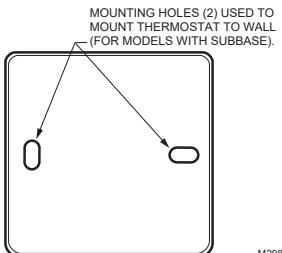

Fig. 3. Mounting hole locations for models with subbase.
- Tighten the mounting screws. See Fig. 3.